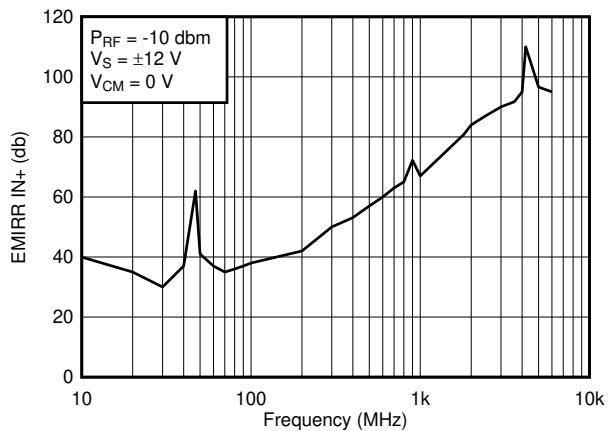

図 7-6. OPA2140 EMIRR
- EMIRR is easier to measure on noninverting pins than on other pins because the noninverting input terminal can be isolated on a PCB. This isolation allows the RF signal to be applied directly to the noninverting input terminal with no complex interactions from other components or connecting PCB traces. 図 7-6
The EMIRR IN+ of the OPA2140 is plotted versus frequency as shown in 図 7-6. If available, any dual and quad op amp device versions have nearly similar EMIRR IN+ performance. The OPA2140 unity-gain bandwidth is 11 MHz. EMIRR performance below this frequency denotes interfering signals that fall within the op amp bandwidth.